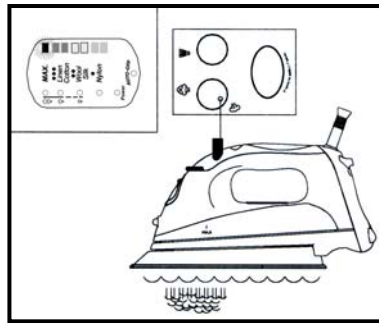

Fig. 3
- Turn the steam button to the minimum steam setting. (Fig. 3)